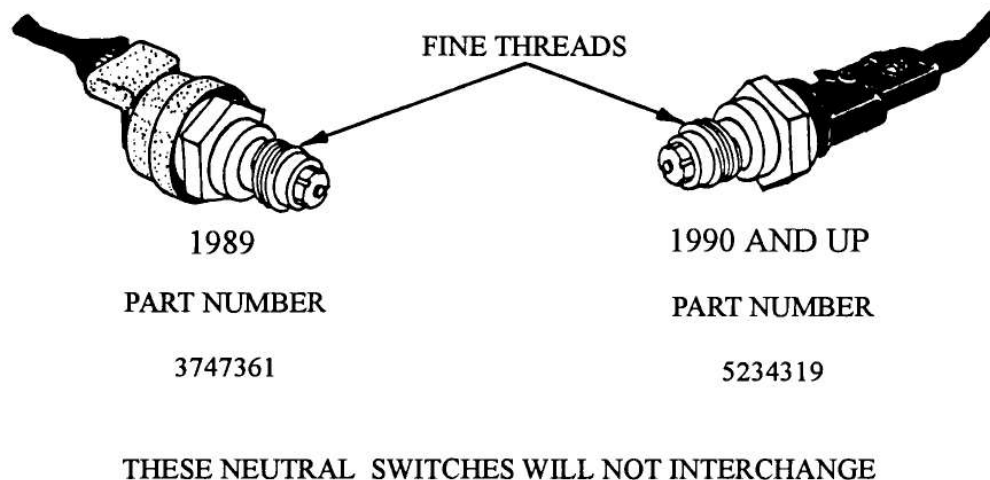

Figure 22
- (2) **NEUTRAL SAFETY SWITCH AND CONNECTOR** - The Neutral Safety Switch and its wiring harness connector have changed for 1990, and can be identified visually (See Figure 22). These Neutral Safety Switches **WILL NOT** interchange with one another.